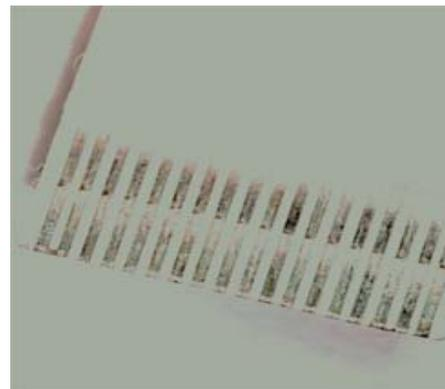

Figure 1: Do not use tin plating on flex circuitry
- Compressive contact points (e.g., see Figure 1)